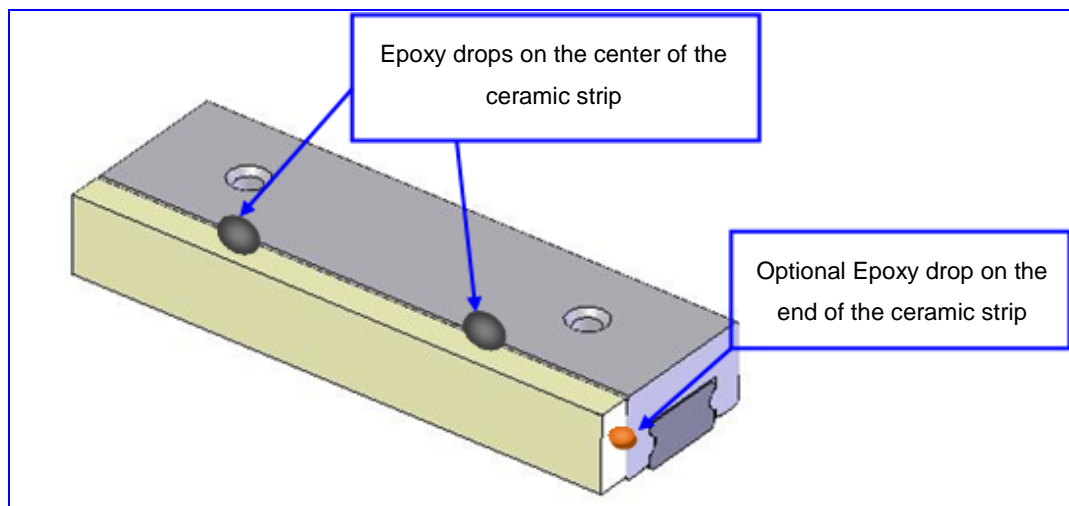

Figure 1: Bonding the Ceramic Driving Strip
- c. Attach the Ceramic Driving Strip to the previously cleaned stage area (see Figure 1), making sure no air bubbles are trapped between the stage and the ceramic strip.
- e. Apply two drops of Epoxy adhesive on the center of the Ceramic Driving Strip surface, about 5-10 mm apart. For short strips up to 10mm, a single drop can be applied on each end of the Ceramic Driving Strip (see Figure 1). The Epoxy must bond the strip to the slide. Recommended adhesive: 3M™ 2216 Epoxy or compatible.